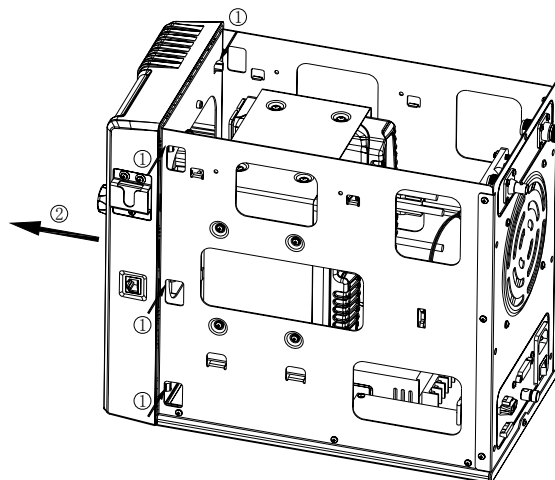

Figure 2
1. Press the 6 latches that locking the front panel to the housing to separate and remove them from the housing ①, shown as Figure 2.
2. Remove the front panel ② shown as Figure 2, and pull out the two set of jumper wires, two repeater cables, accessory connector cable, and connecting cable of the DC power indication LED.